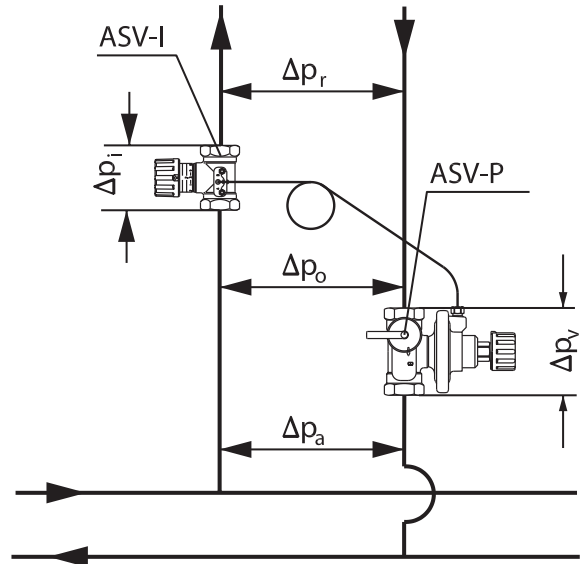

Fig. 2 Setting of ASV-P = $\Delta p_{riser} + \Delta p$
- partner valve inside control loop (Fig. 2). Offers flow limitation on the riser however part of the controlled pressure range is used by pressure drop on partner valve (Δp_v). It is recommended when flow limitation on each terminal units is not possible.